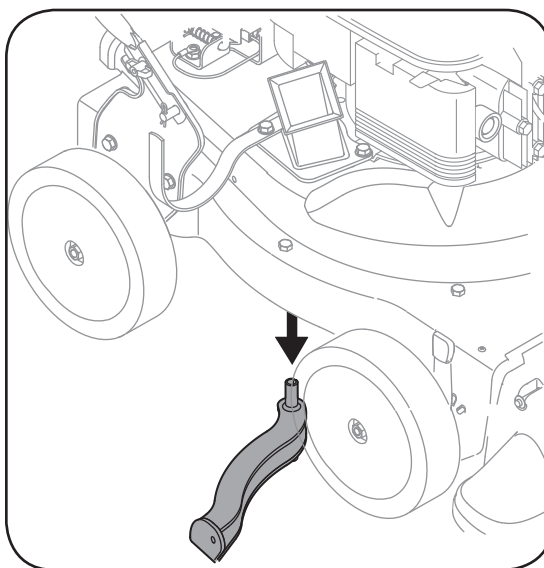

Figure 18
- Remove and clean the screen by scraping or washing with water. See Figure 18.